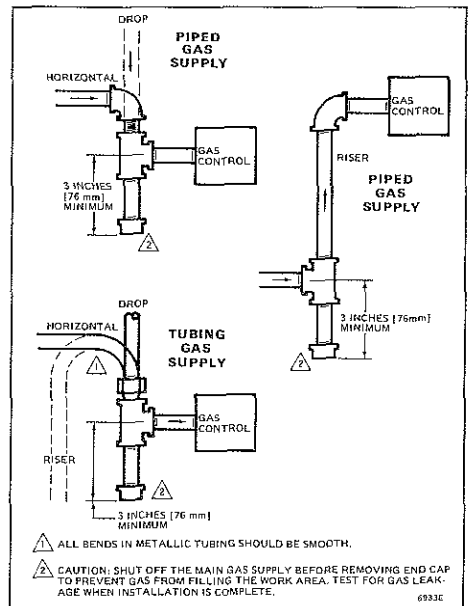

Fig. 2—Install sediment trap.
3. Install sediment trap in the supply line to the gas control. See Fig. 2.